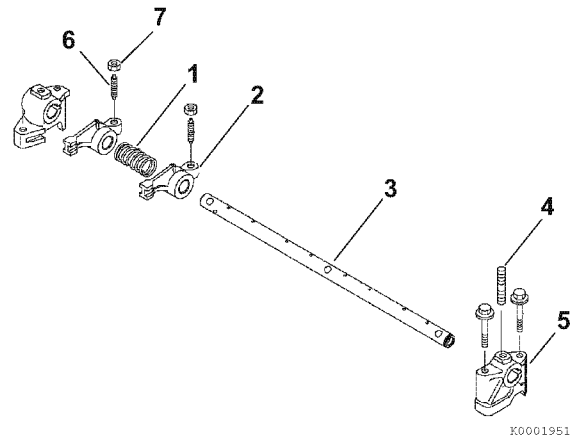

Figure 6-35
- Lubricate the rocker arm shaft. Slide the rocker arm supports (Figure 6-35, (5)), springs (Figure 6-35, (1)) and rocker arms (Figure 6-35, (2)) onto the shaft.
- To properly align the rocker arm shaft with the rocker arm shaft supports, first reinstall a rocker arm support (Figure 6-35, (5)) having a hole for the shaft alignment stud (Figure 6-35, (4)). Align the hole in the rocker arm shaft and the hole in the rocker arm support. Reinstall the alignment stud.
Note: Figure 6-35 shows components for one cylinder. Components for all remaining cylinders are assembled in the same order.
- If removed, reinstall the valve adjusting screws (Figure 6-35, (6)) and the lock the nuts (Figure 6-35, (7)).